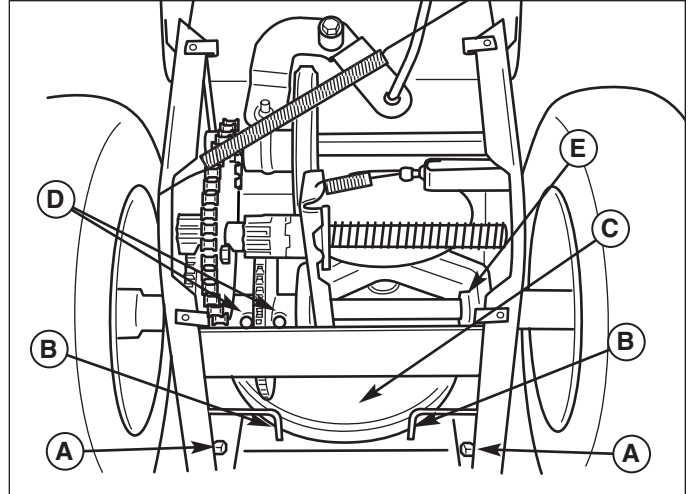

Figure 18. Broom Pulley Belt Stops (shown with bottom cover removed)
- c. Remove six capscrews from bottom cover to power broom frame. Loosen nuts (A, Figure 18) on each side to release broom pulley belt stops (B). Move belt stops and remove belt from pulley (C).
- Reverse the procedure to install the belts. Be sure there are no twists and the belts are properly seated in the grooves. Adjust the belt stops so there is 1/8" (3mm) clearance between belt and stop. The pattern for both belts is shown in Figure 19. Slide the right axle left fully before tightening the set collar (E, Figure 18).